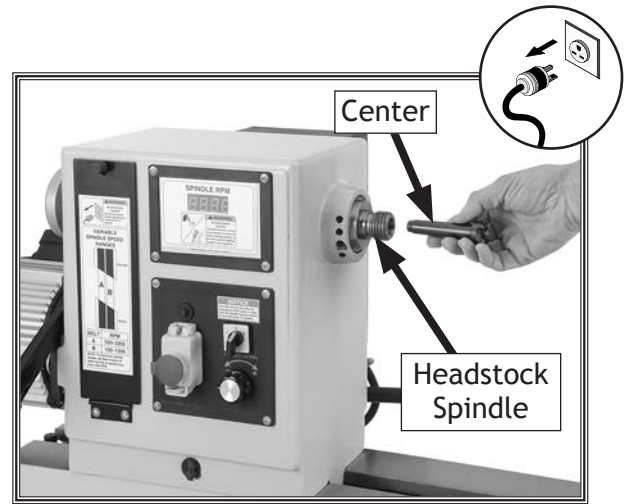

Figure 25. Installing center in headstock spindle.
3. Insert tapered end of center into spindle, and push it in with a quick, firm motion, as shown in **Figure 25**.